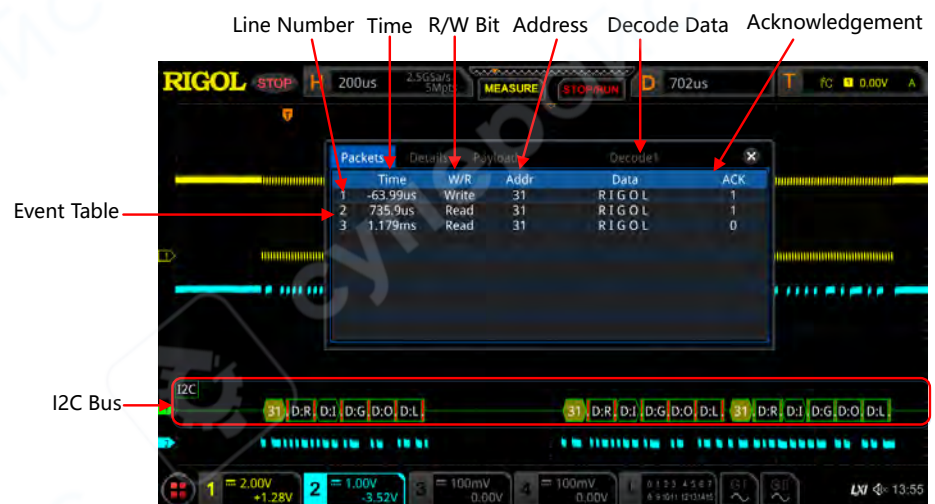

Figure 15.6 I2C Decoding Event Table
- Open or close the event table: Press **Event Table** continuously to enable or disable the display of the event table. When enabled, the following event table as shown in *Figure 15.6* is displayed. You can also enable the touch screen to tap the icon  at the right-upper corner of the event table to close it.